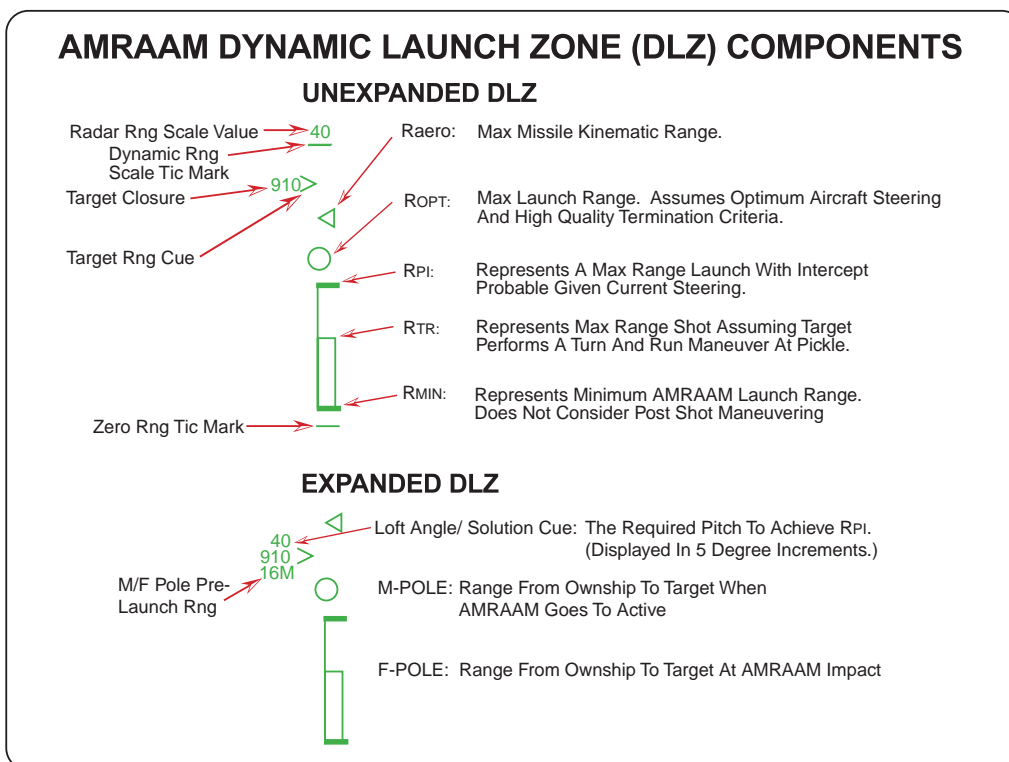

Figure 3-31 AMRAAM Dynamic Launch Zone Components
The physical appearance and the terminology defining the AMRAAM DLZ has changed significantly in M2 (Figure 3-31).
- 7) AMRAAM Loft Solution Cue: A loft solution cue was added to the AMRAAM DLZ on the HUD and MFD to support the AMRAAM loft launch capability. The loft angle is located above the target closure rate (Figure 3-31). The cue consists of a one or two digit numeric cue representing the climb angle and is removed when the target range is less than R_{PI} . When the DLZ target range cue reaches R_{AERO} a loft angle is provided to indicate the conditions required to achieve an R_{AERO} shot (target range between R_{AERO} and R_{OPT}) or an R_{OPT} shot (target range between R_{OPT} and R_{PI}). For either shot, center the Attack Steering Cue (ASC) in azimuth relative to the Allowable Steering Error Circle (ASEC) and execute a smooth pull-up to the indicated loft angle placing the ASC in the center of the ASEC.